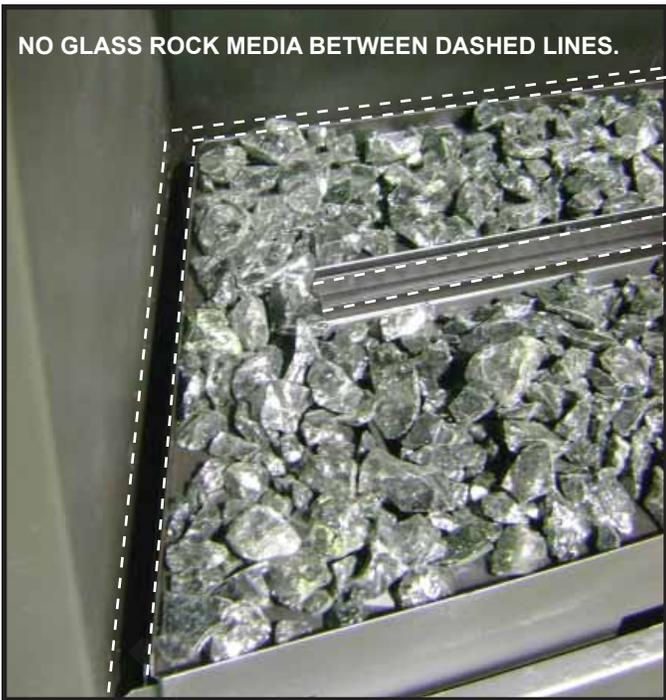

Figure 14.4. Maintaining Media Tray Air Spaces.
**NOTICE:** Care should be taken to avoid placing glass rock media between the left, right and back edges of the media tray and the firebox. Blocking this gap may cause an undesirable flame appearance. See Figure 14.4.
3. Use both index fingers to release spring latches. See Figure 14.4.